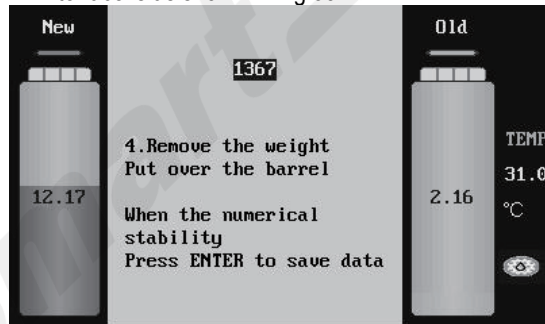

Fig.35
- 6) When the value displayed on the interface is stable, please press ENTER key again to save the data. The interface is as shown in Fig.35.